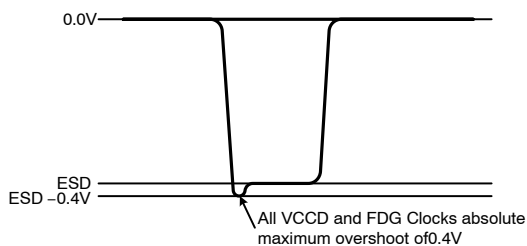

Figure 15. VCCD Clock Overshoots
3. The VCCD clock waveform must not have a negative overshoot more than 0.4 V below the ESD voltage. See figure 15.